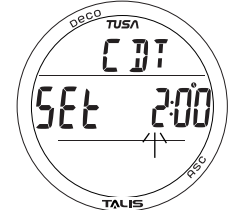

Fig. 9B - SET WATCH CDT
**Set CDT**, information includes (Fig. 9B):